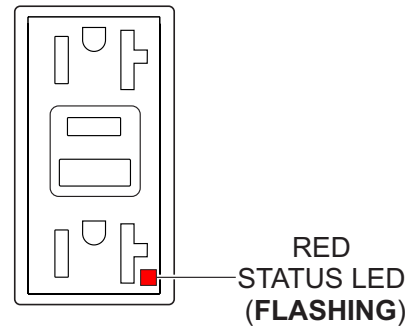

Figure 68. GFCI Receptacle (RED Flashing LED)
6. If the status LED (Figure 68) is **flashing (RED)**, **DO NOT** use the GFCI receptacle and replace it immediately.